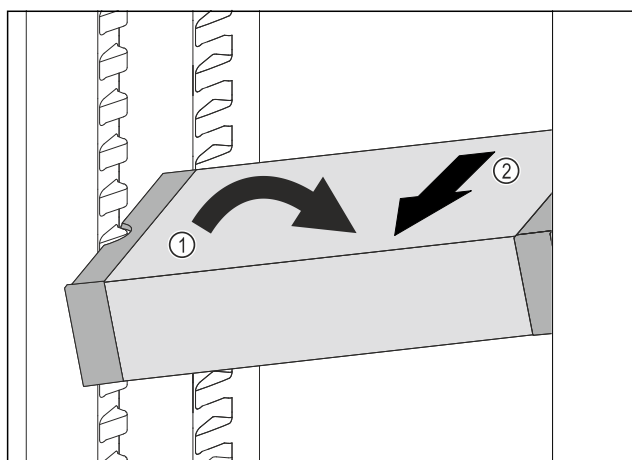

Fig. 185
- Set VarioSafe in refrigerator compartment at an angle. Fig. 185 (1)
- Take VarioSafe out to the front. Fig. 185 (2)